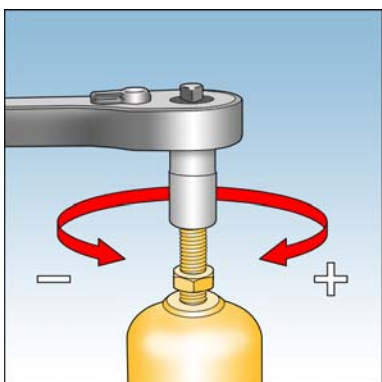

Fig. 3
- 3) Connect suitable spanner (15mm A/F) to hexagon of spring adjusting stem. See Fig. 3.